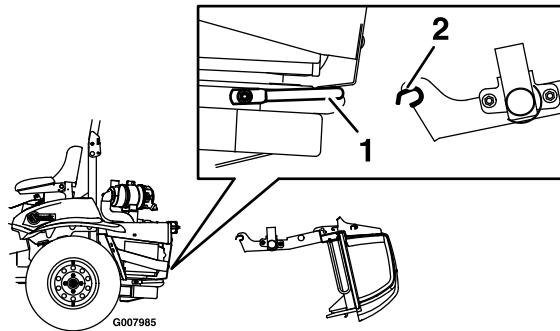

Figure 22
1. Lay the hopper assembly down as shown in Figure 22.
2. Pick up the bagger frame legs and hook the notch onto the lower bagger mount bar (see Figure 22).